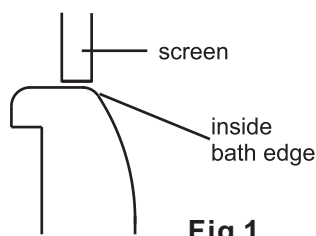

Fig 1
1. Position the wall profile so the fixed panel A sits on the inside edge of the bath Fig 1.